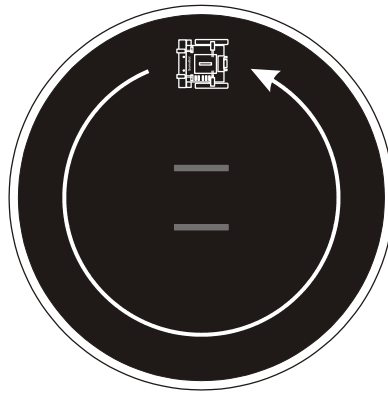

Figure 4-4
- ✓ For the `CurveLeft` and `CurveRight` maneuvers, tune them so that the SumoBot can do a full circle in the ring without passing over the white tawara line (see Figure 4-4).